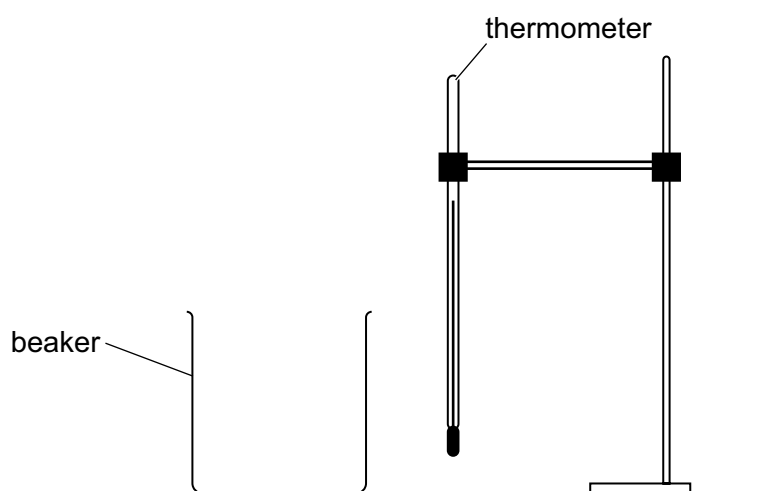

Fig. 1.1
- 1 The thermometer, clamp, boss and stand are to be set up for candidates as shown in Fig. 1.1. The thermometer bulb must be well below the 100 cm³ level of the beaker.
Check that the apparatus is intact and is arranged as in Fig. 1.1.